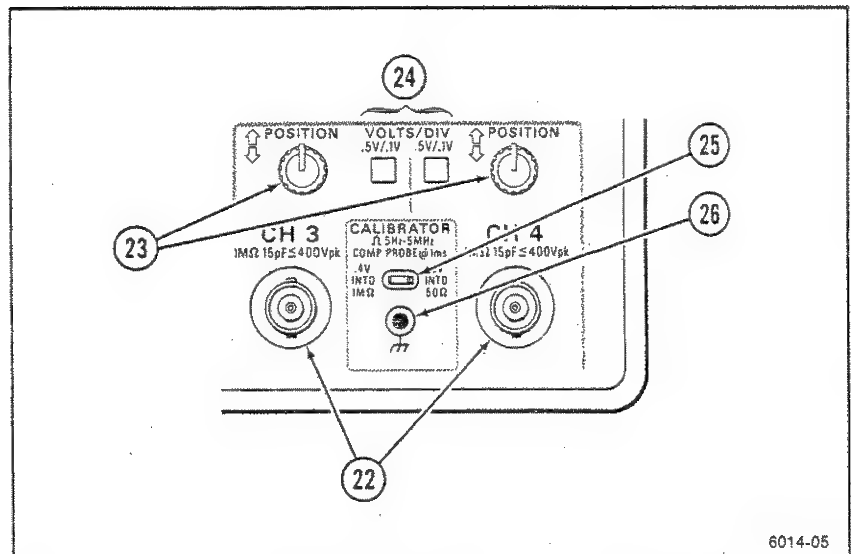

Figure 5-4. CH 3 and CH 4 controls and connectors and CALIBRATOR output.
Refer to Figure 5-4 for the location of items 22 through 26.